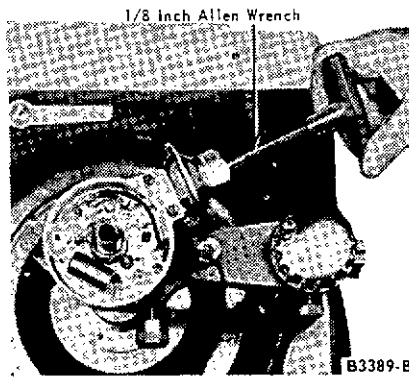

FIG. 8 Vacuum Advance Adjustment
- If the advance is incorrect and adjustment is required, disconnect the vacuum line and insert a 1/8 inch socket head wrench in the end of the diaphragm (Figure 8). Turn the wrench clockwise to increase the vacuum advance or counterclockwise to decrease it. removal of a washer will increase advance.